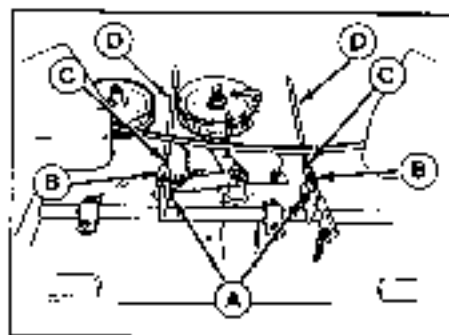

Figure 37. Turnbuckles
5. If adjustment is needed, remove the two pins (A, figure 37) by removing the center pins. Loosen the jam nuts (C).